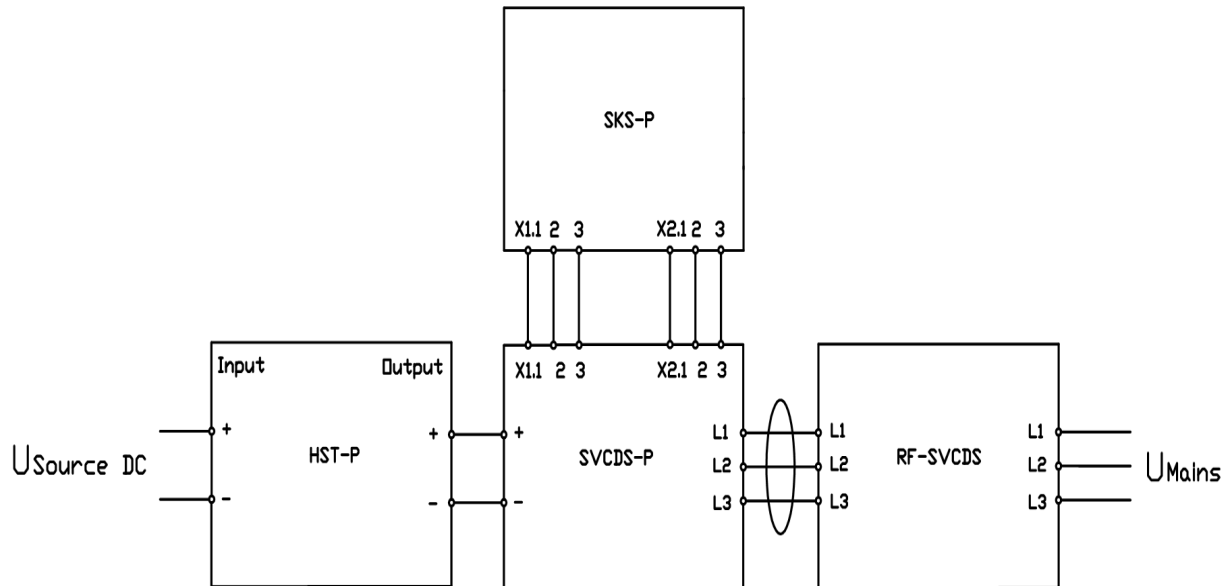
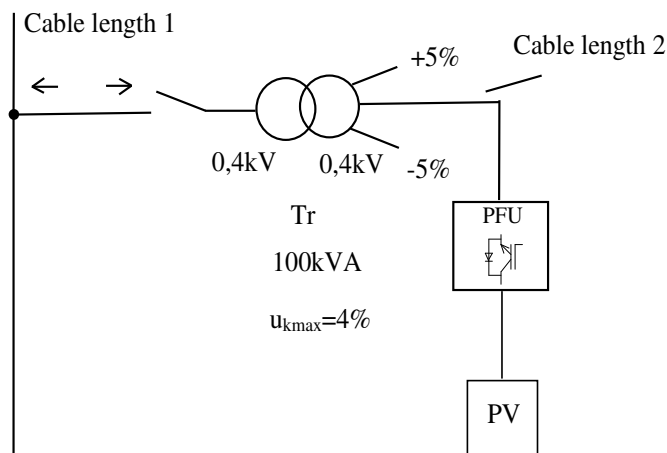

Figure 8: The connection of the module up to and including PNM-P 100-400
Figure 9: Grid connection with electrical isolation
The PNM-modules up to and including PNM-P 100-400 are connected as in Fig.8.
- About clearing the impact of lower short circuit power at the connection point of the low voltage grid, long cable lengths (see figure 8 „cable length 1 and 2“) or high mains impedance must a transformer with tap be used (see figure 9)